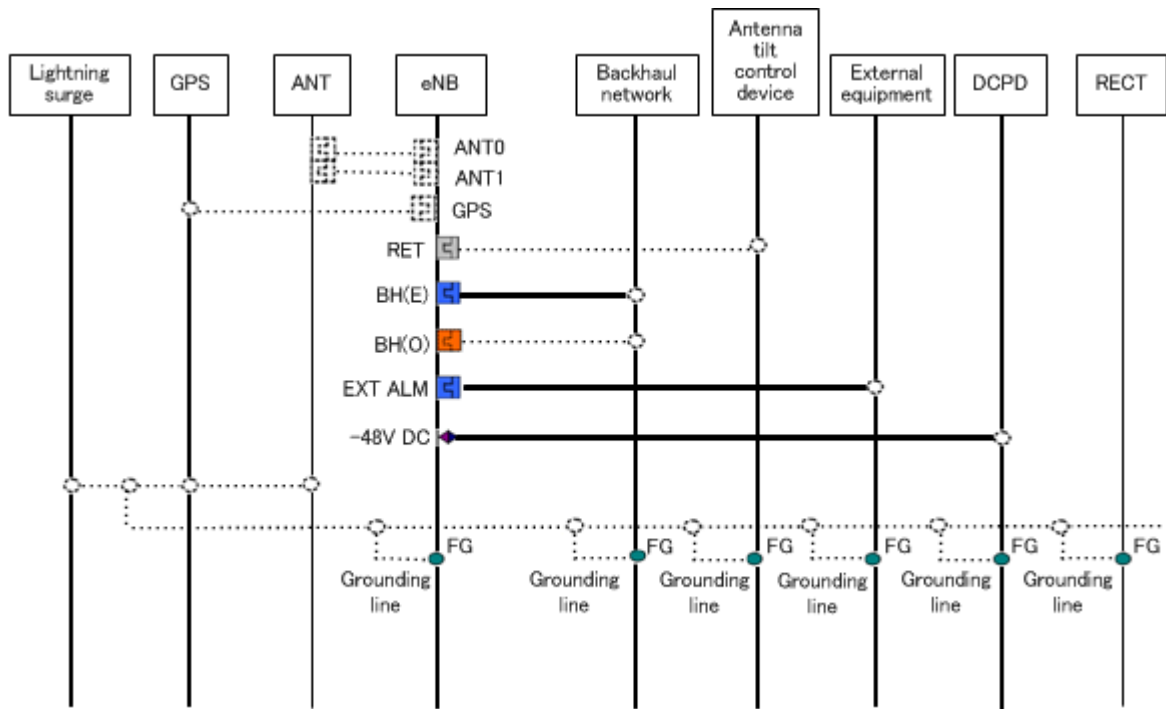

Figure 5 Cable Connection System Diagram
Figure 5 shows the cable connection system diagram for All-in-one Type eNB. Table 3 shows the list of connectors and legends.
- 3 Figure 5 omits ACPDB master, ACPDB, storage battery, UPS equipment, etc.
- 4 Broken line in Figure 5 may change depending on installation contract, scope of work and installation design.